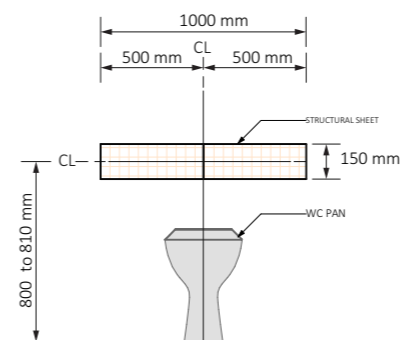

Figure 6.2f: Location of noggings for a wall behind a toilet pan
(D) FIGURES 6.2F OR 6.2G FOR A WALL BEHIND A TOILET PAN WHERE A WALL DESCRIBED IN (C) IS NOT PROVIDED OR A WINDOW SILL OR A DOOR ENCROACHES ON THE AREA REQUIRED TO BE PROVIDED WITH REINFORCING OR WHERE THE TOILET PAN IS NOT PROVIDED IN A CORNER OF THE BATHROOM.
(2) REINFORCING NEED ONLY BE PROVIDED ACROSS THE AVAILABLE WIDTH OF THE WALL WHERE A WALL REFERRED TO IN (1) (A) OR (B);